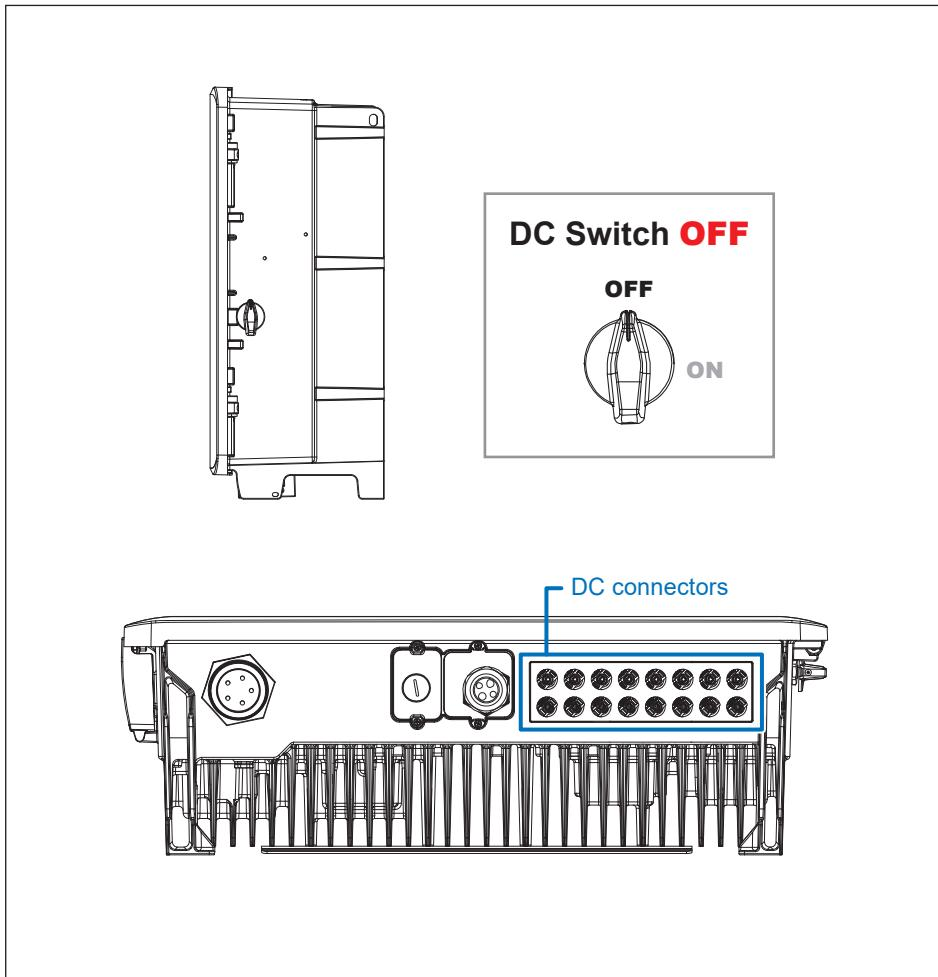

Figure 3-26: Precautions for on-site insulation test
2. Place one probe in any DC connectors shown in **Figure 3-26** and the other on the ground.